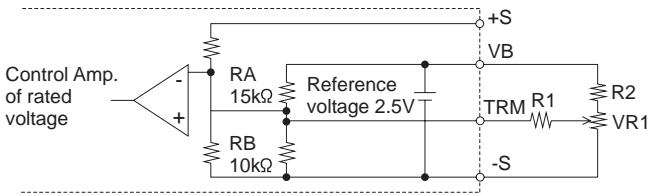

Fig.4.6 Output voltage control circuit
(1) Adjusting method by external resistor
■By connecting the external potentiometer(VR1) and resistors(R1, R2), output voltage becomes adjustable, as shown in Fig.4.6, recommended external parts are shown in Table 4.3.